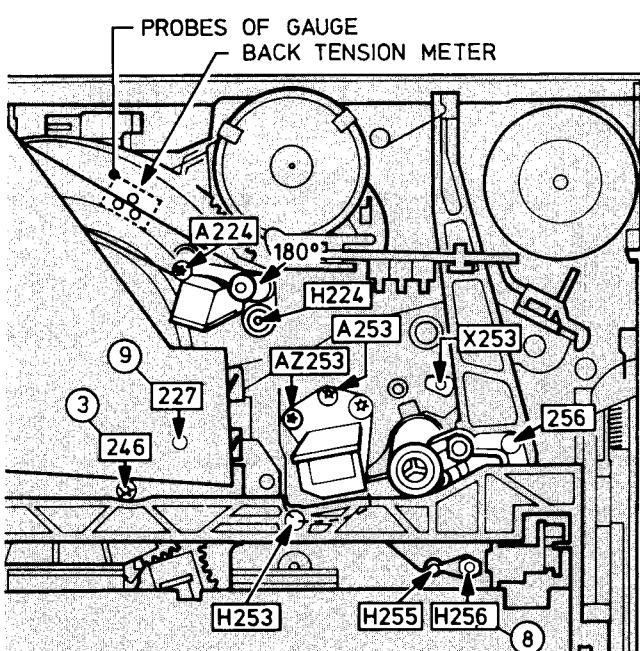

Fig. 2-10
- After a few seconds put in the back tension meter Fig. 2-10.
- Adjustment is done by putting the spring pos 203 in an other notch.
- Turn screw 227, fig. 2-10 in fully and then unscrew it by  $1\frac{1}{4}$  turns only.
- If the rest of the deck adjustments have not been executed with, then adjust pos. 227 by not more than  $\frac{1}{4}$  turn to centralise the tape on the reverse pin pos. 254 and pos. 255 during SEARCH FORWARD.